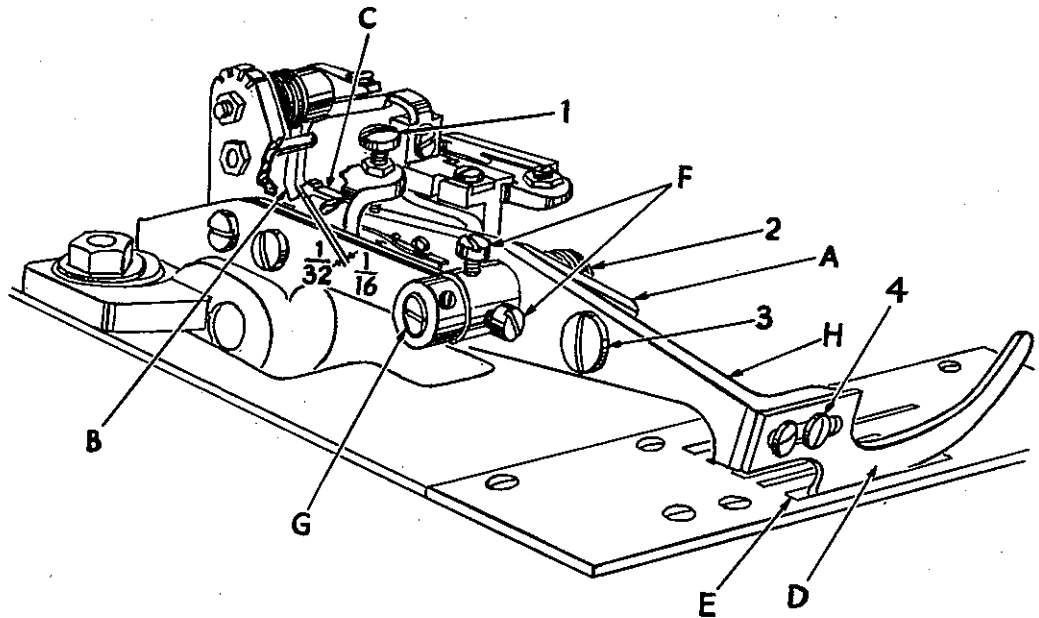

Fig. 7
The automatic tape cutting mechanism has four main adjustments. Adjustment No. 1 (Fig. 7) regulates the stop position of actuating lever (A). This stop is properly set when there is a small amount of play, from  $1/32$  to  $1/16$  inch, between points (B) and (C) when the mechanism is at rest.